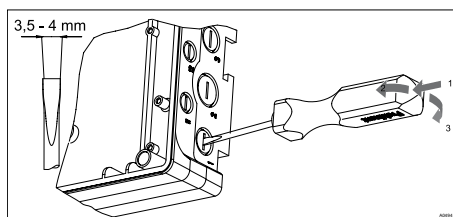

Fig. 14: Breaking out threaded holes
2.  To break out the threaded holes, punch the slit in the middle of the threaded holes using a screwdriver (tip width 3.5 - 4 mm, see Fig. 14) and lever the material out